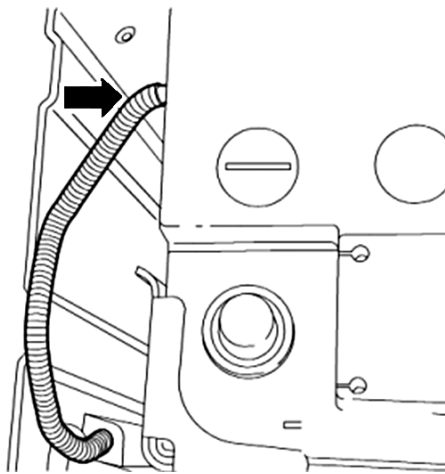

Fig. 7 Gas vent hose disconnect
13. Disconnect central gas vent hose (arrow) from top cover, **Fig. 7**.
4. Connect central gas vent hose (arrow) to top cover, **Fig. 7**. Ensure central gas vent hose is attached to battery and that it cannot get disconnected when battery is being installed. Only then can battery be properly vented.